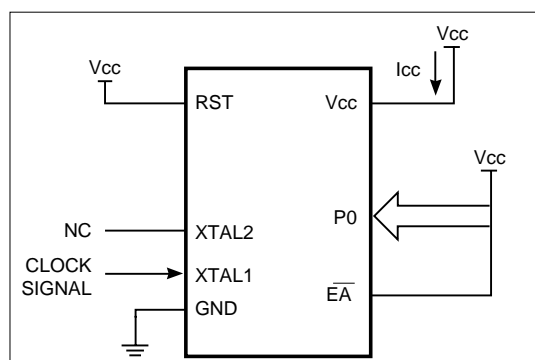

Figure 13. Active Mode
1. See Figures 13, 14, 15, and 16 for I_{CC} test conditions.